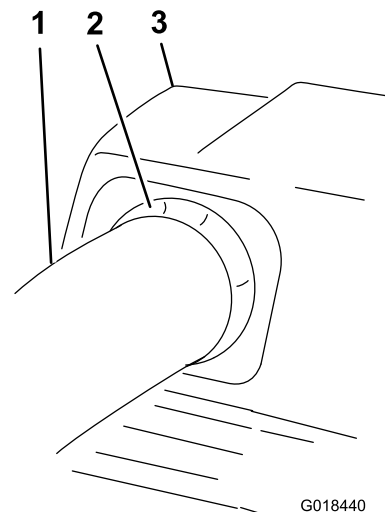

Figure 30
10. Pull the upper tube out slightly so that the seal extends outward and over the lower tube (**Figure 30**).
- Pull the upper tube out slightly so that the seal extends outward and over the blower assembly (Figure 30).